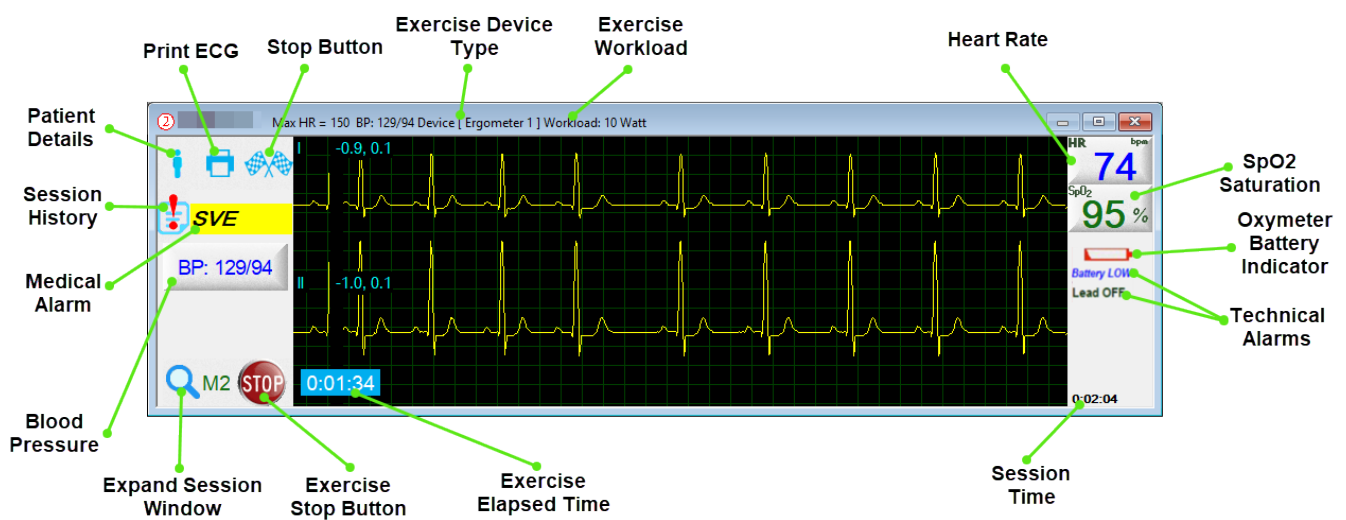

Figure 7: ECG Monitoring Session Window
The following features and options are available during the ECG monitoring session (see Figure 7).
To print the ECG screen, click  on the left panel of the session window (see Figure 7). The current 10-second ECG strip is printed in a six-lead format.
1. Click  on the left panel of the session window (see Figure 7).
- To insert BP systolic and diastolic values, click and insert the values (see Figure 7).
Click to open the Session History dialog box, and then insert the values (see Figure 7).
- To set HR alarm limits, click on the right of the ECG session (see Figure 7).
- To set the SpO2 alarm limit, click on the right of the ECG session (see Figure 7).